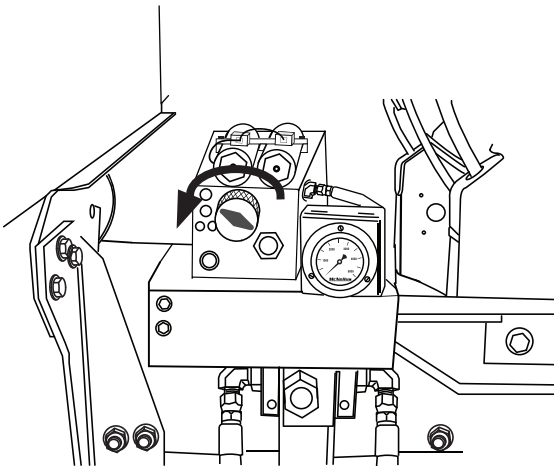

Figure 2
3. Ensure the BM pressure knob is turned all the way to the left (counterclockwise) (Figure 2).
13. Turn the pressure adjustment knob all the way to the left (see Figure 2 for reference).